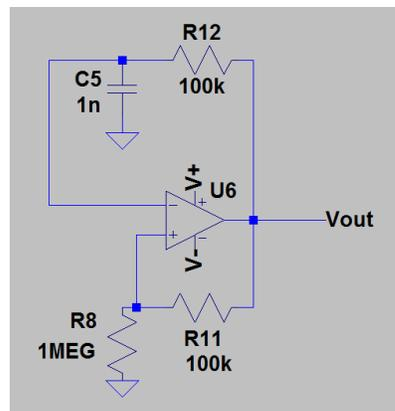
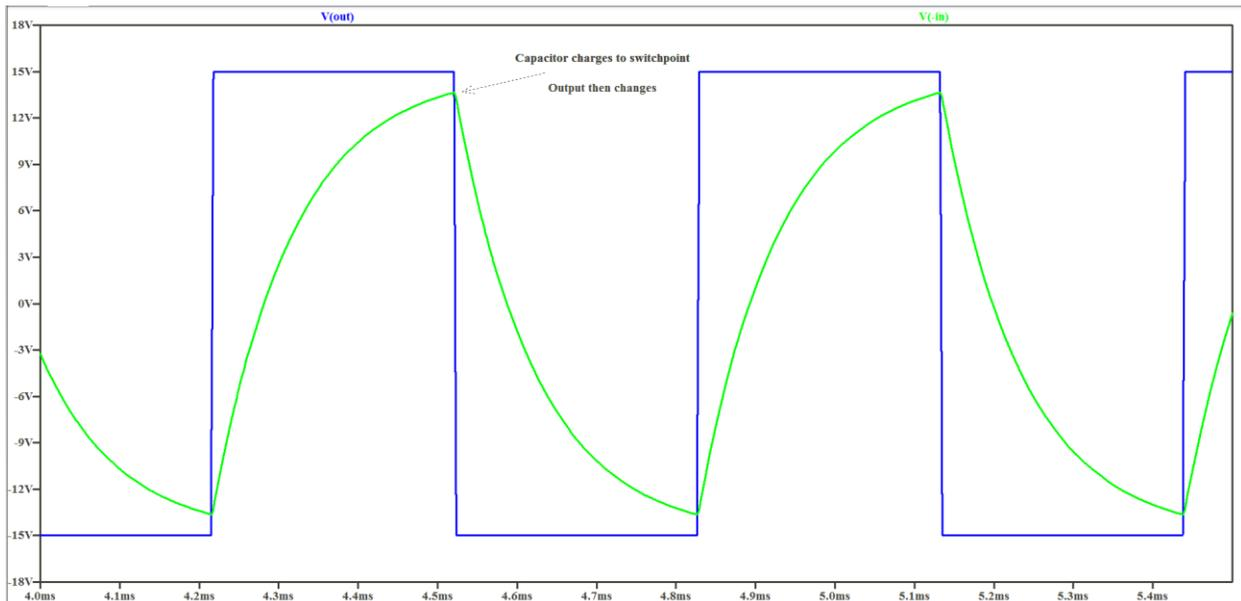

Fig. 2 An astable circuit
Fig. 3 Output and inverting input of circuit
The bistable circuit has many uses indeed, but we need to modify it for our purpose since we want to make an oscillator. The trick to doing this is to change our circuit from being bistable to astable, that is, without stability. This can be done by adding an RC circuit between the output and the inverting input as shown in fig. 2. The capacitor will charge up to the output voltage through the resistor. Once the voltage at the inverting input is greater than the voltage on the noninverting input then the output will switch to V^- . The capacitor will then charge up to the output voltage which is at V^- . Once this value exceeds that at the noninverting input, the output will switch to V^+ . This process will continue as long as the circuit is powered up. The circuit constantly flips between the two states and is therefore astable. Fig. 3 shows the waveforms for this circuit. Notice how once the capacitor charges to the switch point, the output changes state.
- a. Calculate the oscillation frequency of the square wave oscillator using the time constant of R1 and C1. Be sure to measure the value of R1 (potentiometer) at the setting you used in the circuit to make sure your calculation is accurate. Compare this to the measured frequency of oscillation in terms of error percentage and comment on why this frequency deviation occurs. Hint: look at figure 3 and think about what the effect of the switch point is on oscillation frequency.